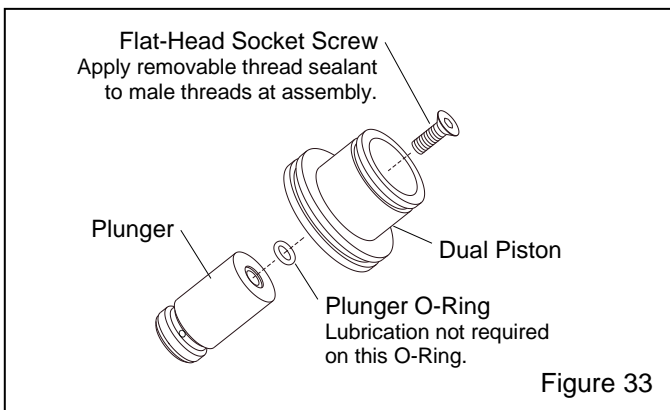

Figure 33
7.3.2.4 If the plunger and piston were separated, as noted in paragraph 7.3.1.5, refer to Figure 33 and apply removable thread sealant to the threads on the flat-head socket screw, and reassemble the parts using the new O-ring supplied with the service kit.